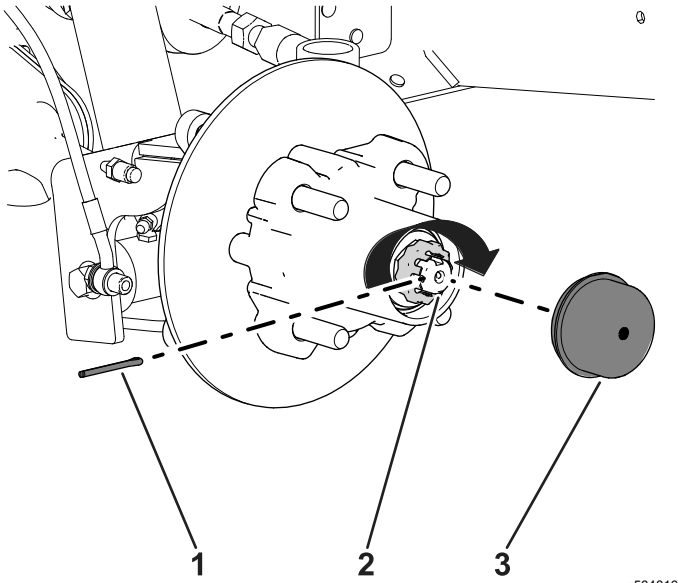

Figure 40
8. Install the retainer over the nut and check the alignment of the slot in the retainer and the hole in the spindle for the cotter pin (Figure 40).
9. Install the cotter pin and bend each leg around the retainer (Figure 40).
10. Install the dust cap onto the hub (Figure 40).